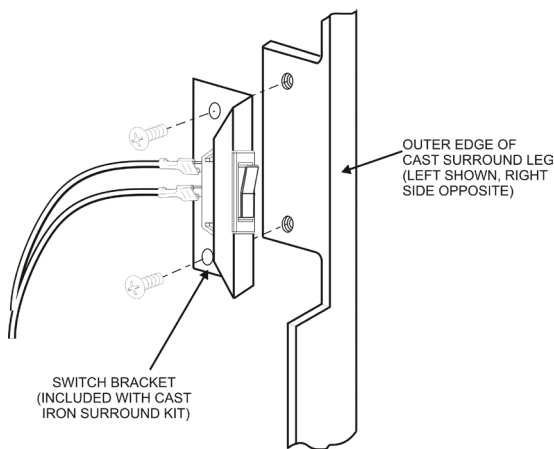

Figure 20
4. Install the switch bracket with screws as shown in **Figure 20** to the back of the cast surround leg.